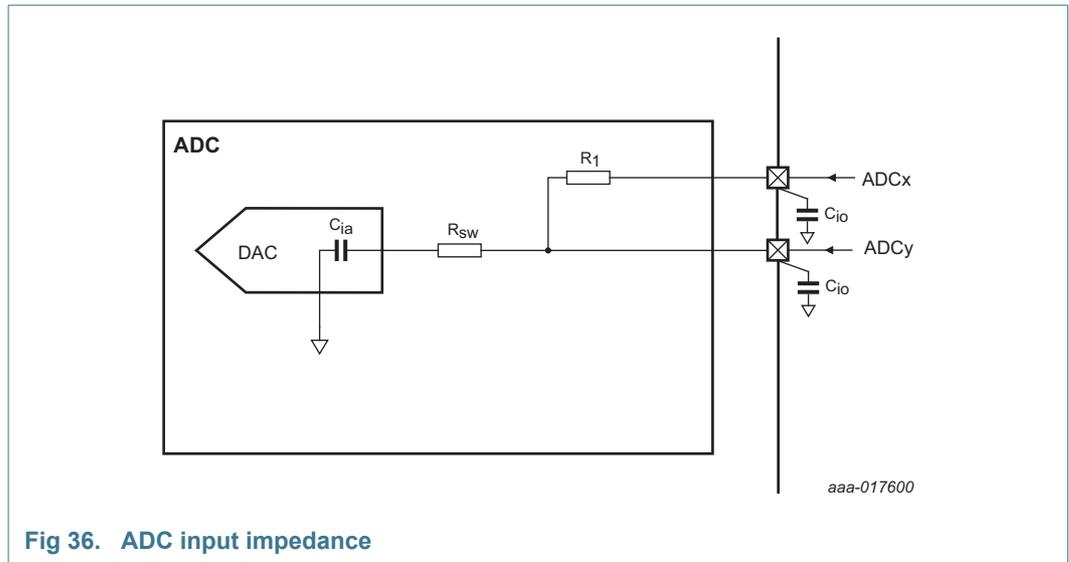

Fig 36. ADC input impedance
- [10] Input impedance Z_i is inversely proportional to the sampling frequency and the total input capacity including C_{ia} and C_{io} : $Z_i \propto 1 / (f_s \times C_i)$. See Table 19 for C_{io} . See Figure 36.
Figure 36 shows the ADC input impedance. In this figure: